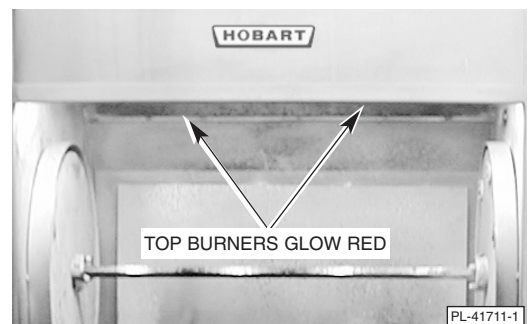

Fig. 31
- Check the burners in the top of the cavity (Fig. 31) to ensure burners are lit and beginning to glow red.